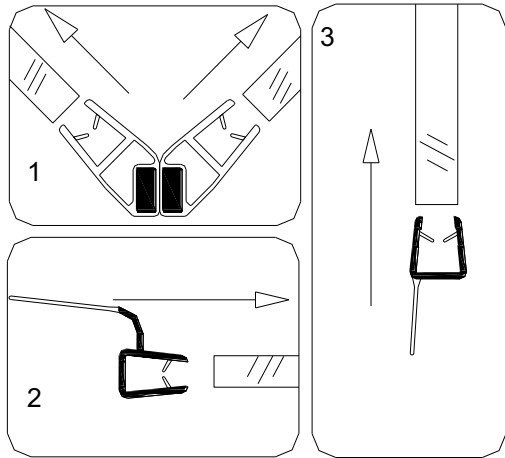

Fig. 21
13. Push the **Magnetic strips (18)** on the glass door and the wide stationary glass. Push the **Anti-water strip (19)** and the **Flanged anti-water strip (20)** onto the **Glass door**. Perform necessary adjustment at the L-Pivot bars to ensure that the magnetic strips work well and the door is closing tight. See fig. 21 for details.